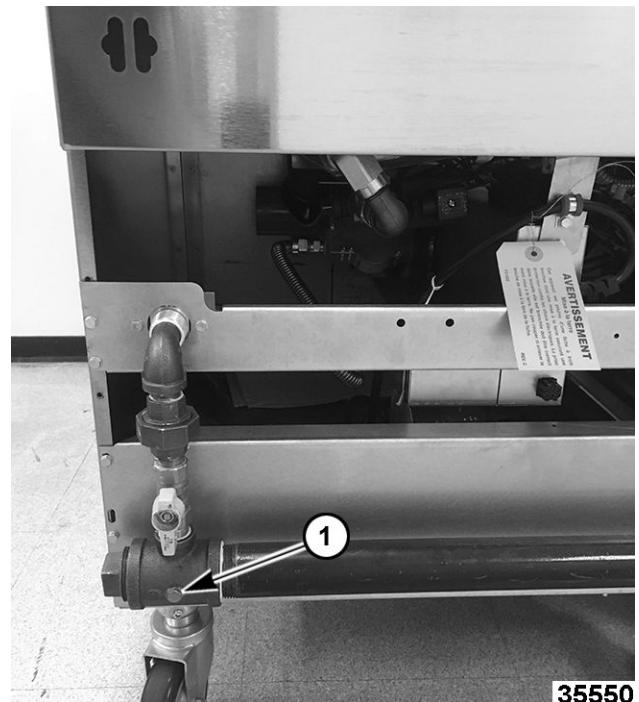

**Fig. 60**
3. Remove 1/8" NPT plug (Fig. 60, 1) in manifold tee on the far right.